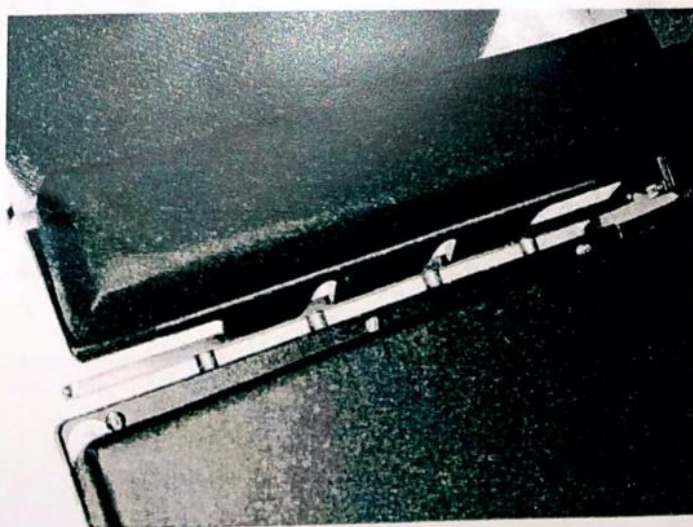

Figure 2-2. Typical Bariatric Table Extension Attachment – Amsco 3080 Series Surgical Table Shown
3. Position correct extension above table side rail and insert extension mounting tang between table top and side rail (see Fig. 2-2). Lower extension into place, resting on top of table side rail.